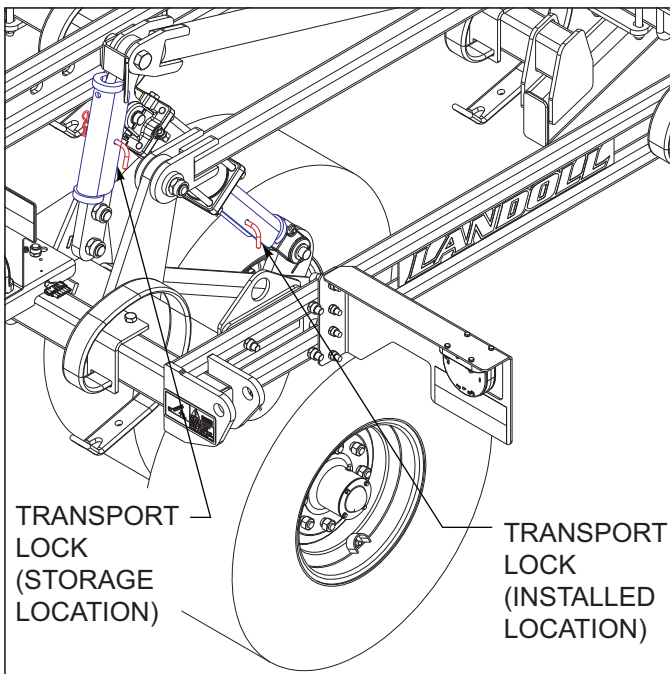

Figure 4-2: Transport Lock Locations
2. The hydraulic system is not filled with oil and should be purged of air before transporting and field operations. Carefully hitch the Field Cultivator to the tractor and connect the hydraulic lift hoses. Check to make sure the tractor hydraulic reservoir is full of the manufacturer's recommended oil. Slowly raise the machine, and continue to hold the hydraulic lever until all lift cylinders are fully extended. With all cylinders fully extended remove the transport locks *See Figure 4-2*. Lower and raise the unit to verify that all cylinders are working simultaneously throughout the stroke. If the cylinders are not working evenly or together, fully extend the lift cylinders and continue to hold the lever to purge any remaining air. Do not loosen any hoses or fittings. Recheck tractor reservoir to make sure it is within operating limits.